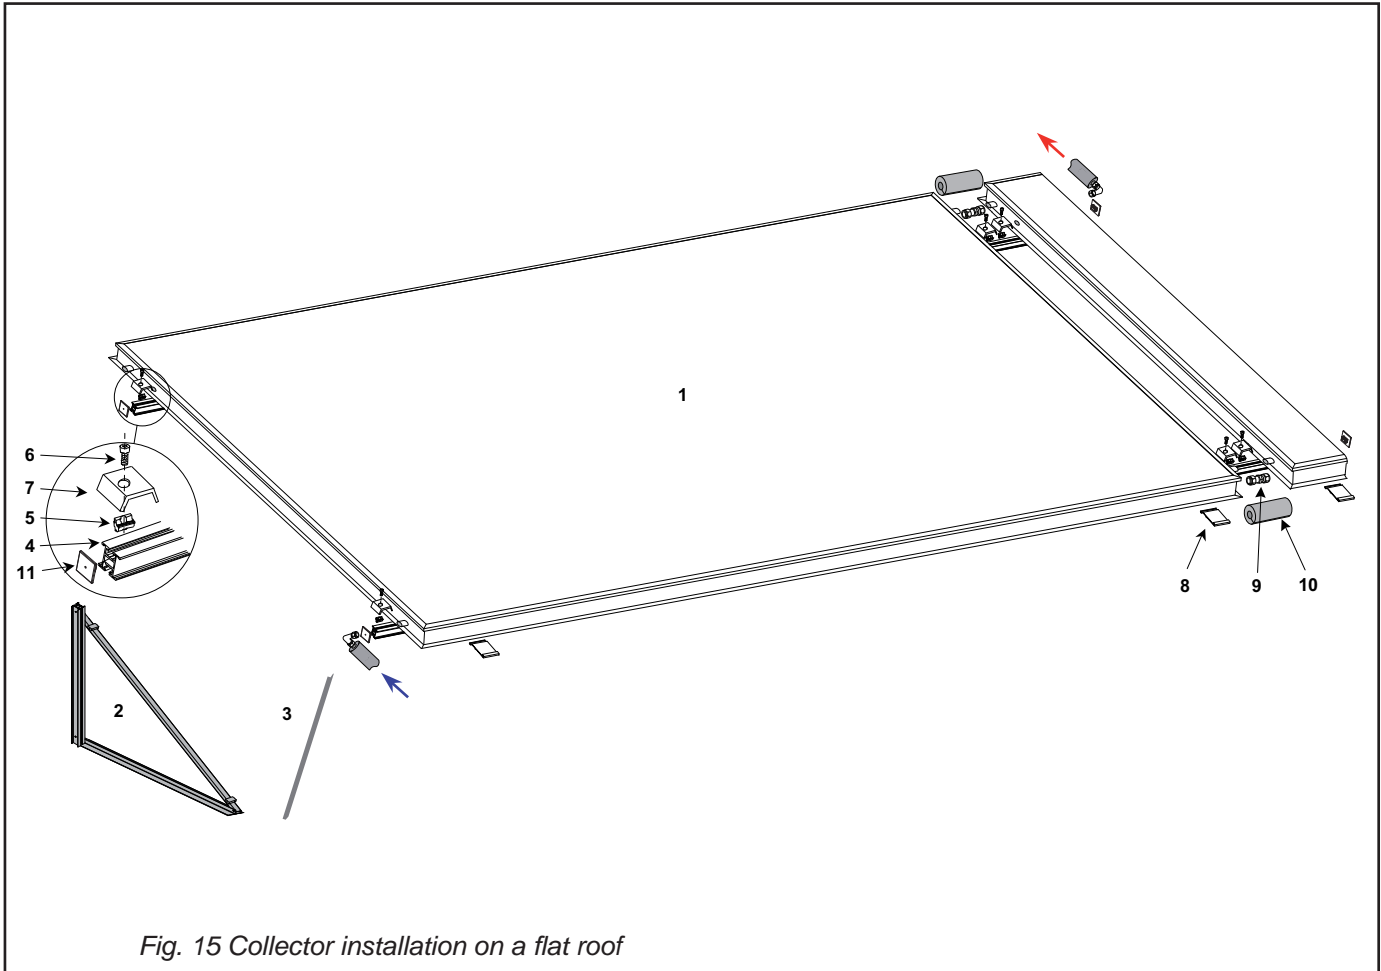

Fig. 15 Collector installation on a flat roof
- Lay the following collector next to the first one, maintaining a sufficient gap. Then put on the threaded fittings (Fig. 15, pos. 9) and push the collector to the already mounted one until stop. Hold the fitting with a spanner to prevent turning and tighten the nuts. More on this in chapter 5 **Hydraulic Connection**.